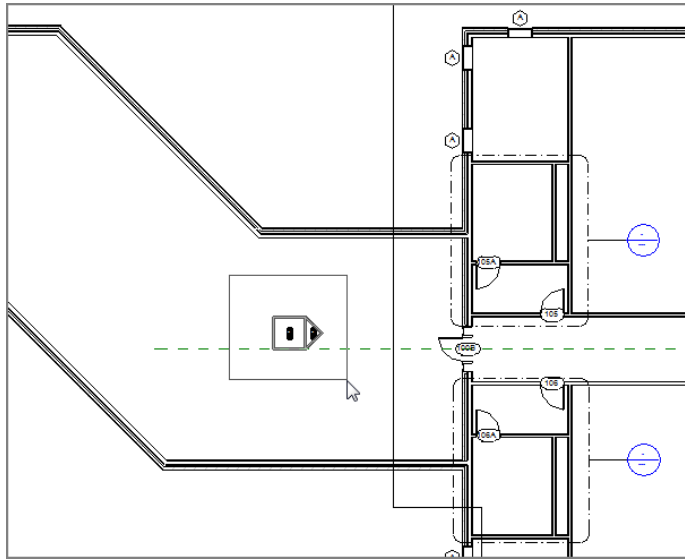

FIGURE 3.74: The elevation marker is right in the way!
I saved the best view—or at least, the most popular—for last. Elevations are essential for any project—so essential, in fact, that Revit provides four of them before you place a single wall into the model. The four shapes that represent houses that were in the model at the beginning of the book are elevation markers, as shown in Figure 3.74. These markers are typically handy but are most certainly now in the way. The first thing you need to do is to move one of them out of the way. The second thing you need to do is to create a few new ones!
1. Go to the Level 1 floor plan. In the eastern part of the corridor is an elevation. Yours may be in a slightly different location than the book's example, but it needs to be moved nonetheless (see Figure 3.74).